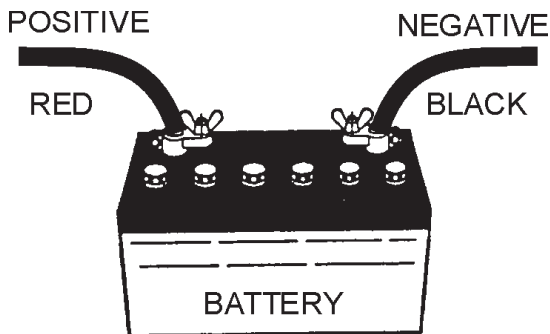

Figure 37. Battery Connections
**ALWAYS** be sure the battery cables (Figure 37) are properly connected to the battery terminals as shown below. The **Red Cable** is connected to the positive terminal of the battery, and the **Black Cable** is connected to the negative terminal of the battery.